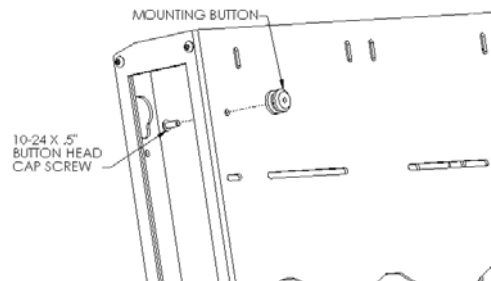

Figure 2
1. Using a 10-24 button head cap screw inserted from inside of bracket, secure mounting button, with chamfered hole of mounting button (larger surface) facing bracket, to bracket (four places) (See Figures 2 & 3).